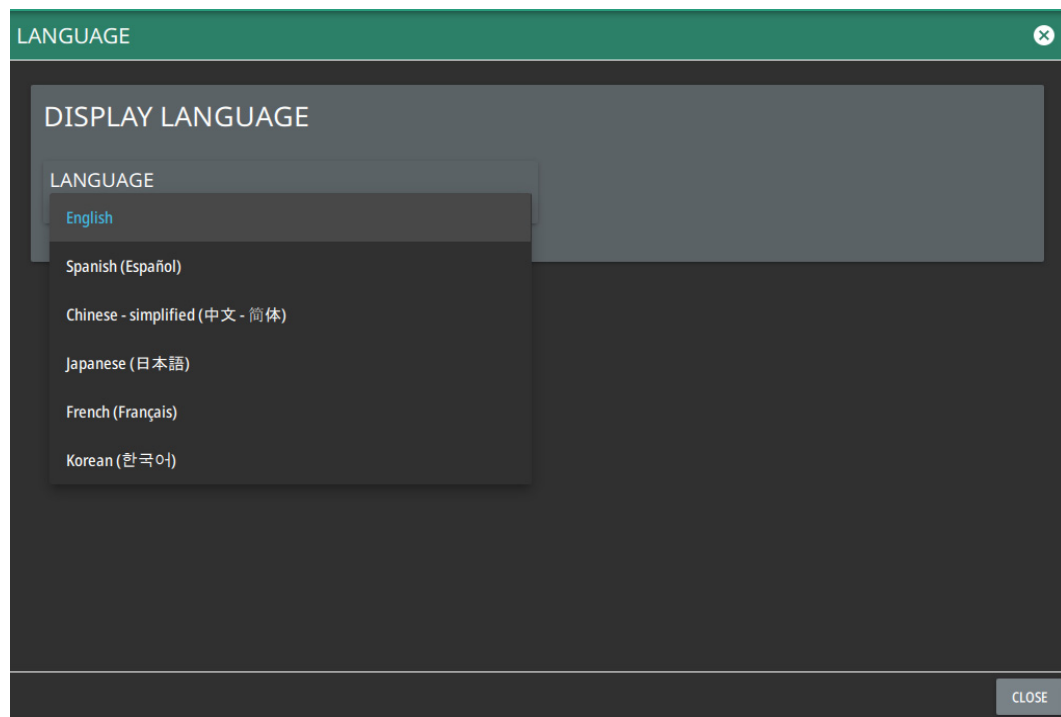

Figure 2-31. Language Settings
3. Select the **LANGUAGE** drop-down menu and select a desired display language as shown in the Figure 2-31.